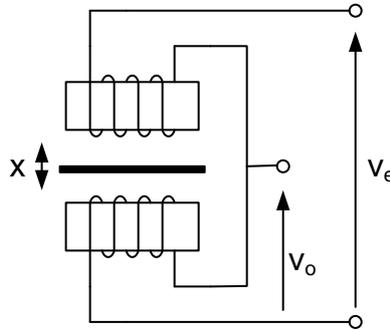
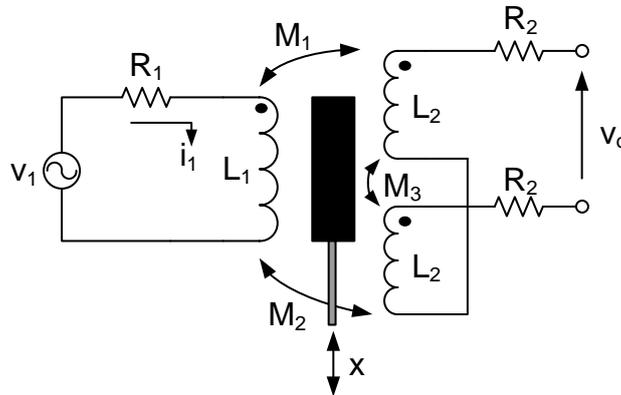
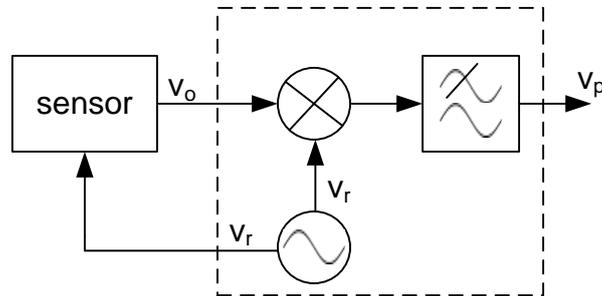

Figure 4: Inductive sensor based on two coils in series.
Figure 5: LVDT sensor.
Figure 6: Sensor with phase sensitive detector.
Figure 4 shows a two coil based linear displacement transformer that can be used to sense the displacement of an object over a distance  $x$ . The two coils each consist of  $N$  windings and are connected in series to each other. An excitation voltage  $v_e$  is placed over the two coils. The voltage drop over one of the coil (i.e., lower coil in Figure 4) is used as the output voltage  $v_o$  of the sensor.
(4p) (c) The linear variable differential transducer (LVDT) shown in Figure 5 is often used to sense displacements instead of the two coil sensor shown in Figure 4. When a purely resistive load  $R_L$  is connected to the output of the sensor, its output voltage is equal to:
- (5p) (e) The displacement sensor from Figure 5 is connected to a phase sensitive detector. This detector consists of an analog multiplier connected to a low-pass filter. Using this processing circuit, it is possible to recover the magnitude and direction of the displacement from the output signal of the sensor. The block diagram of a phase sensitive detector is shown in Figure 6. The displacement of the object is given as a function  $x(t)$ . Assume further that the reference voltage  $v_r$  is equal to: